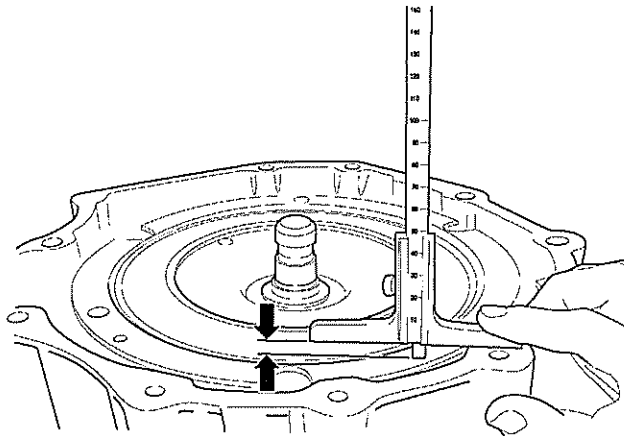

Fig 15 Converter measurement
22.3 Check installation position of converter; ensure recess is 20 mm (see Fig 15).
- 26.1 Carefully insert converter. When pump driving pins are located into recesses, push converter until stop. Check that distance is 20 mm (see Fig 15).